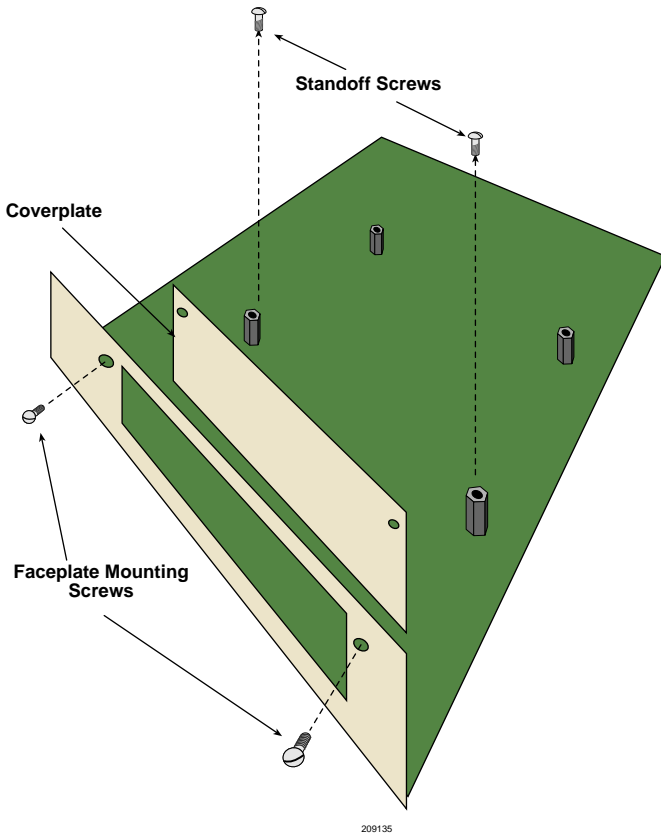

Figure 2-3 Removing the HSIM Coverplate
5. Refer to **Figure 2-3** and remove the two faceplate mounting screws and the HSIM coverplate. Save the screws.
6. Refer to **Figure 2-3** and remove the two standoff screws. Save the screws.